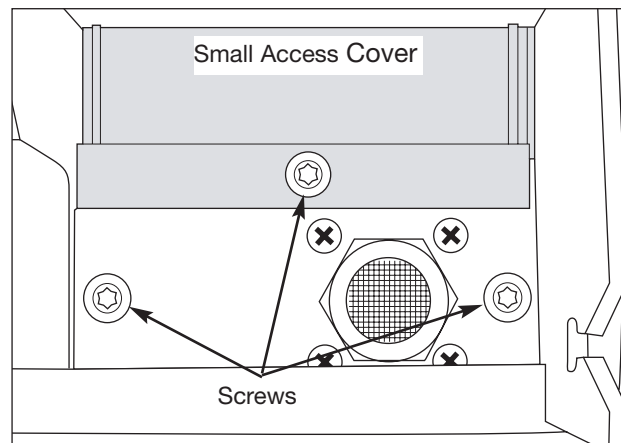

Figure 5-31. Water Valve Removal
4. Using a #20 Torx bit, extract the two screws securing the valve mounting bracket to the unit frame. (See Figure 5-31)